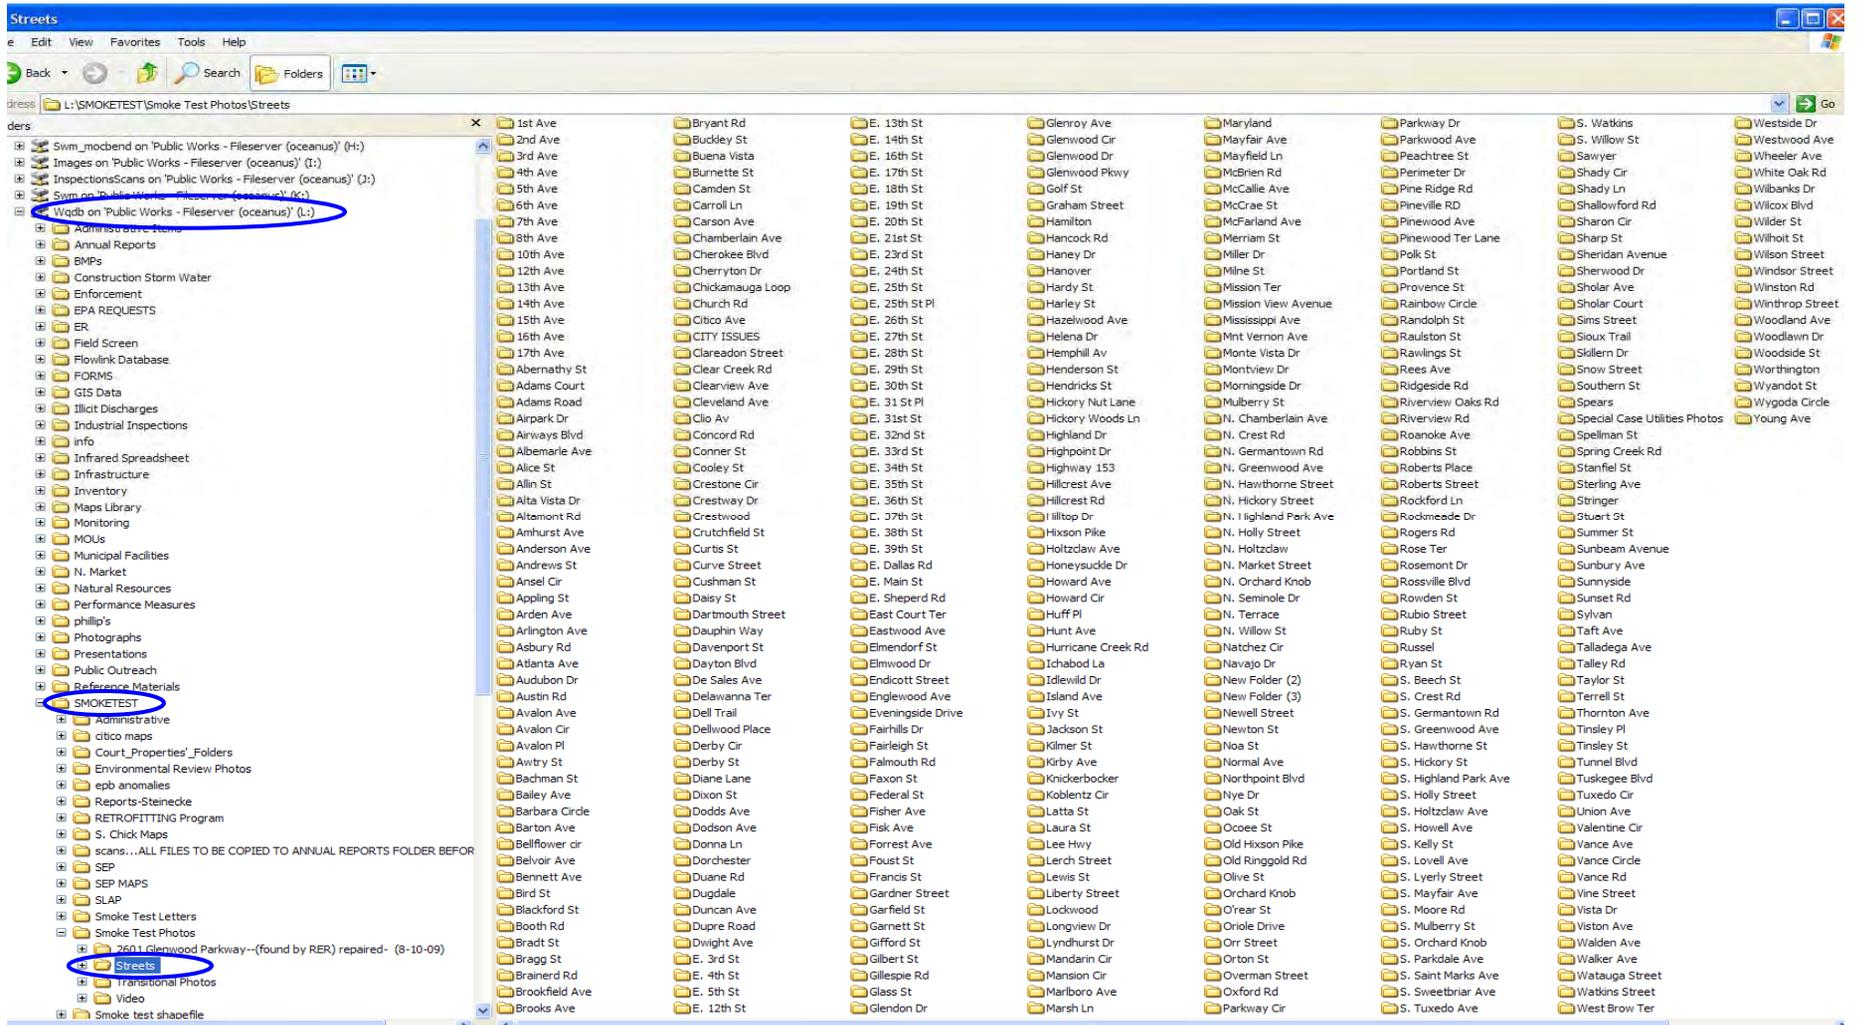

Figure 2: Photo Placement
- Then move that folder to the Water Quality Database folder on the WQDB server. Under the folder marked SMOKETEST Photos place the pictures in the subfolder named Streets in the folder corresponding to the address. (Figure 2).